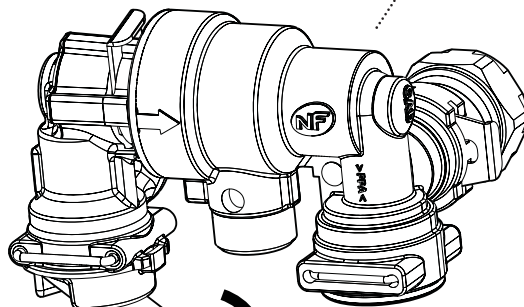

Fig. 5
5. Hold the spring loaded green lever in the open position until the correct pressure (between 1 & 2 bar - indicator in the green area) is registered on the gauge (Fig. 5). Release the lever.